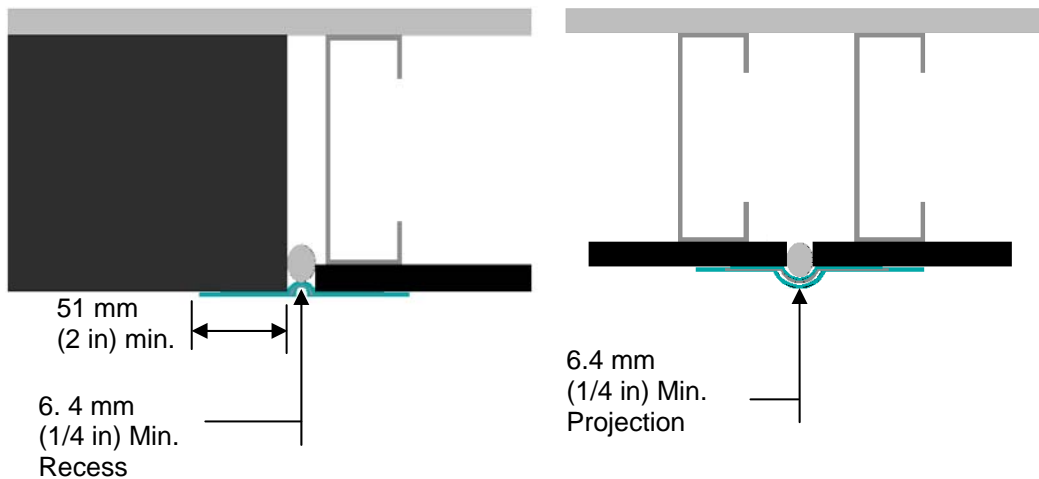

Figure 9
- a. The width of the AquaFlash Mesh must overlap each side of the joint a minimum of 51 mm (2 in) – Figure 9.